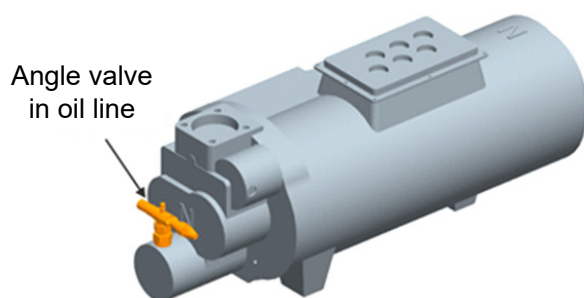

Figure 73. Oil Charge of Compressor
See Figure 73. Oil Level Measure of Oil Separator, follow these procedures:
1. Loosely connect the oil hose to the 1/4" angle valve of compressor oil line as Figure 73.